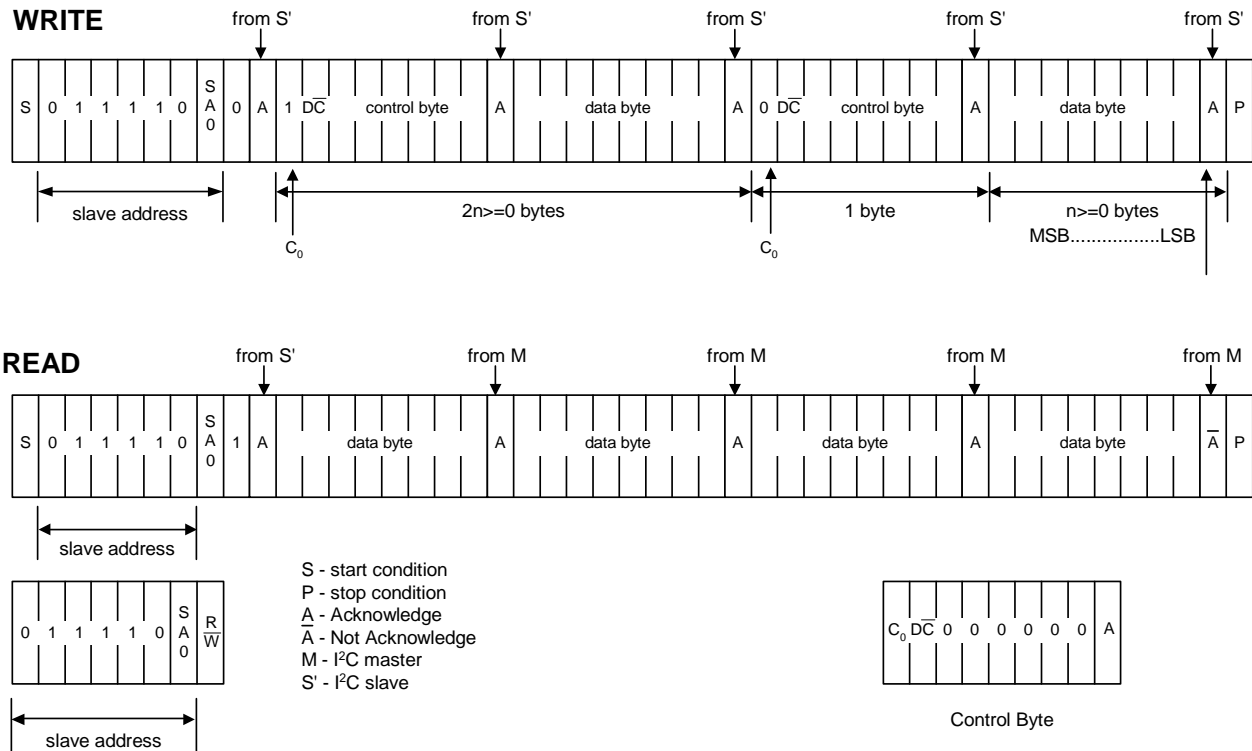

Figure 7 I2C Protocol
The SH1106 supports both read and write access. The  $R/\bar{W}$  bit is part of the slave address. Before any data is transmitted on the I2C-bus, the device that should respond is addressed first. Two 7-bit slave addresses (0111100 and 0111101) are reserved for the SH1106. The least significant bit of the slave address is set by connecting the input SA0 to either logic 0 (VSS) or 1 (VDD1). The I2C-bus protocol is illustrated in Fig.7. The sequence is initiated with a START condition (S) from the I2C-bus master that is followed by the slave address. All slaves with the corresponding address acknowledge in parallel, all the others will ignore the I2C-bus transfer. After acknowledgement, one or more command words follow which define the status of the addressed slaves. A command word consists of a control byte, which defines Co and  $D/\bar{C}$  (note1), plus a data byte (see Fig.7). The last control byte is tagged with a cleared most significant bit, the continuation bit Co. After a control byte with a cleared Co-bit, only data bytes will follow. The state of the  $D/\bar{C}$ -bit defines whether the data-byte is interpreted as a command or as RAM-data. The control and data bytes are also acknowledged by all addressed slaves on the bus. After the last control byte, depending on the  $D/\bar{C}$  bit setting, either a series of display data bytes or command data bytes may follow. If the  $D/\bar{C}$  bit was set to '1', these display bytes are stored in the display RAM at the address specified by the data pointer. The data pointer is automatically updated and the data is directed to the intended SH1106 device. If the  $D/\bar{C}$  bit of the last control byte was set to '0', these command bytes will be decoded and the setting of the device will be changed according to the received commands. The acknowledgement after each byte is made only by the addressed slave. At the end of the transmission the I2C-bus master issues a stop condition (P). If the  $R/\bar{W}$  bit is set to one in the slave-address, the chip will output data immediately after the slave-address according to the  $D/\bar{C}$  bit, which was sent during the last write access. If no acknowledge is generated by the master after a byte, the driver stops transferring data to the master.